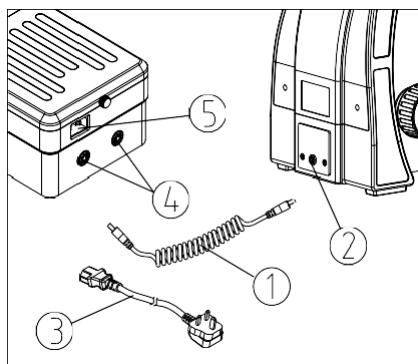

Fig. 31
(1) Insert one end of the power cable ① into the power socket ② of the microscope back, then insert the other end into the power output port ④ of the battery box (can be connected to either output port), and ensure they be connected well. (See Fig. 31)
(last grid is "red" and the remaining seven grids are "green"). (See Fig. 31, 32)